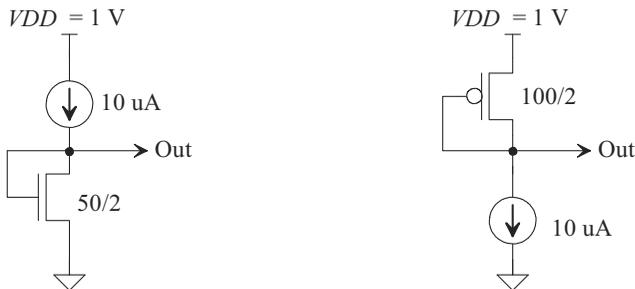

Figure 9.46 Circuits for Problem 9.23.
- 9.23** For the circuits seen in Fig. 9.46, estimate both the output voltage at room temperature and how it will change with temperature. Verify your answer with SPICE. Use the short-channel CMOS process.